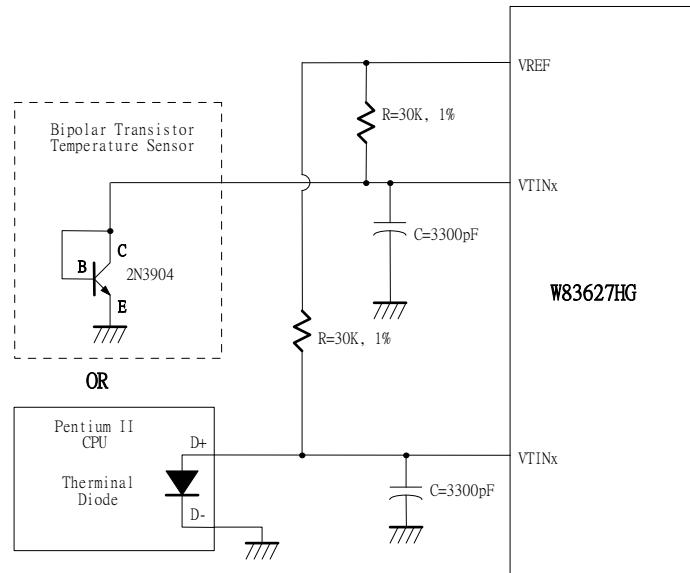

Figure 8.3
The W83627HG can alternate the thermistor to Pentium IITM (Deschutes) thermal diode interface or transistor 2N3904 and the circuit connection is shown as Figure 8.3. The pin of Pentium IITM D- is connected to power supply ground (GND) and the pin D+ is connected to pin VTINx in the W83627HG. The resistor R=30K ohms should be connected to VREF to supply the diode bias current and the bypass capacitor C=3300pF should be added to filter the high frequency noise. The transistor 2N3904 should be connected to a form with a diode, that is, the Base (B) and Collector (C) in the 2N3904 should be tied together to act as a thermal diode.